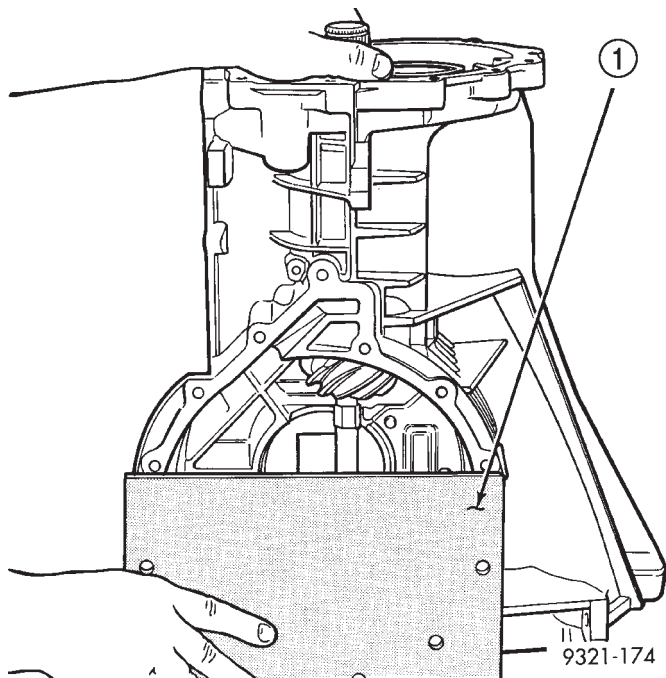

Fig. 412 Transfer Shaft Support Fixture
(34) Install transfer shaft support fixture (special tool 6595) (Fig. 412).